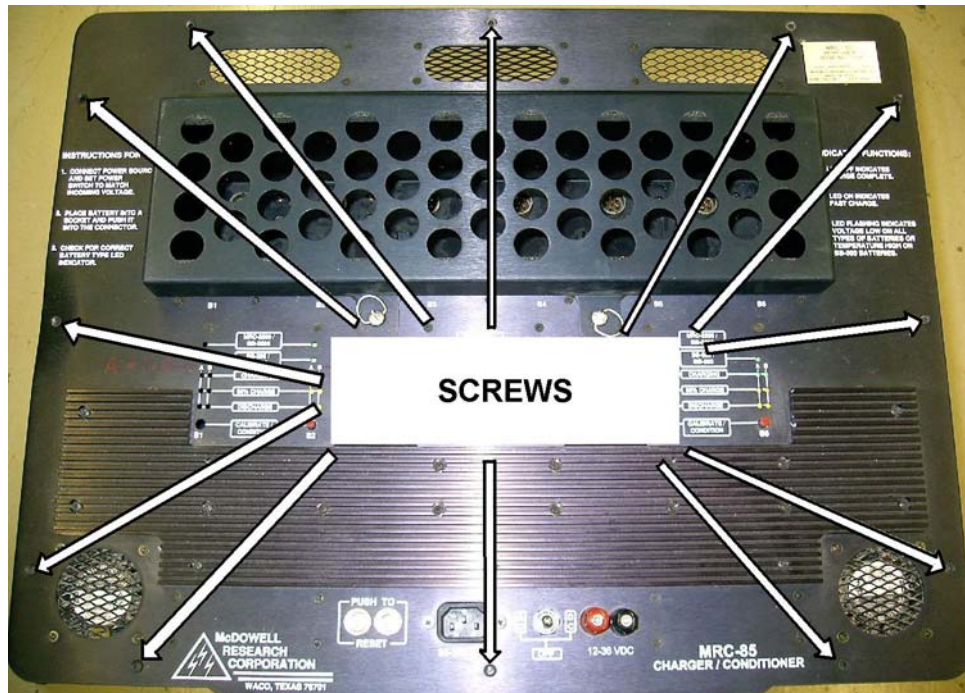
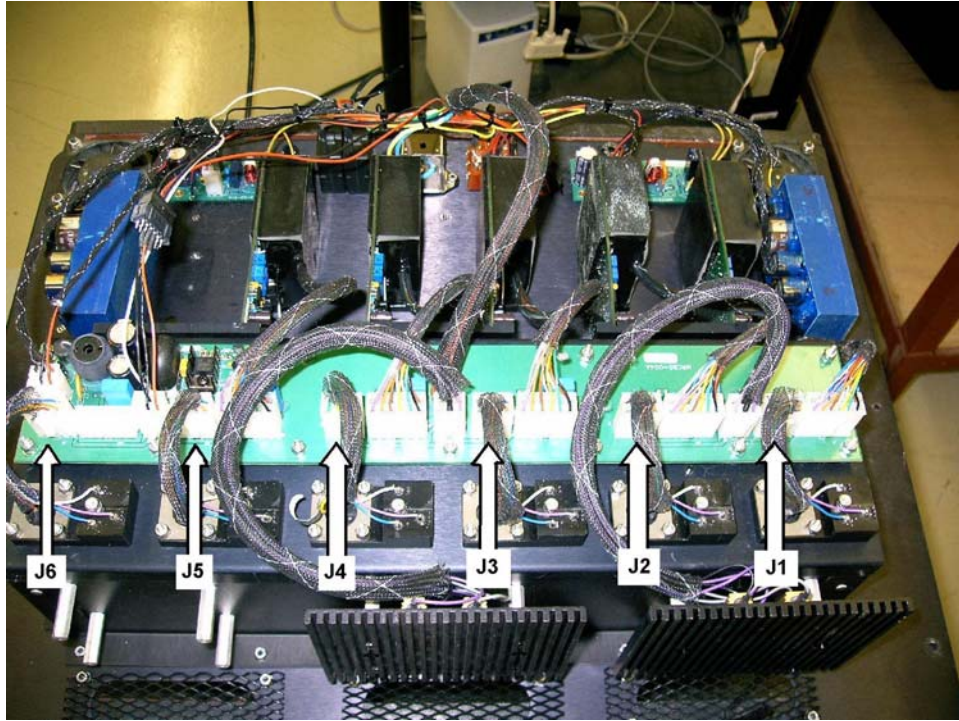

Figure 1-1 Top Panel
Figure 1-2 Location of connectors J1 thru J6 on bottom side of panel
With a philips head screw driver, remove the twelve (12) top panel screws (See Figure 1-1). Lift the panel out of the case and place in a position where the circuit boards are easily accessed (see Figure 1-2). A total of six boards can be installed in the charger, if desired, one for each battery position.
- Locate the distribution board (see Figure 1-2). On this board is a row of connectors labeled J1 through J15.